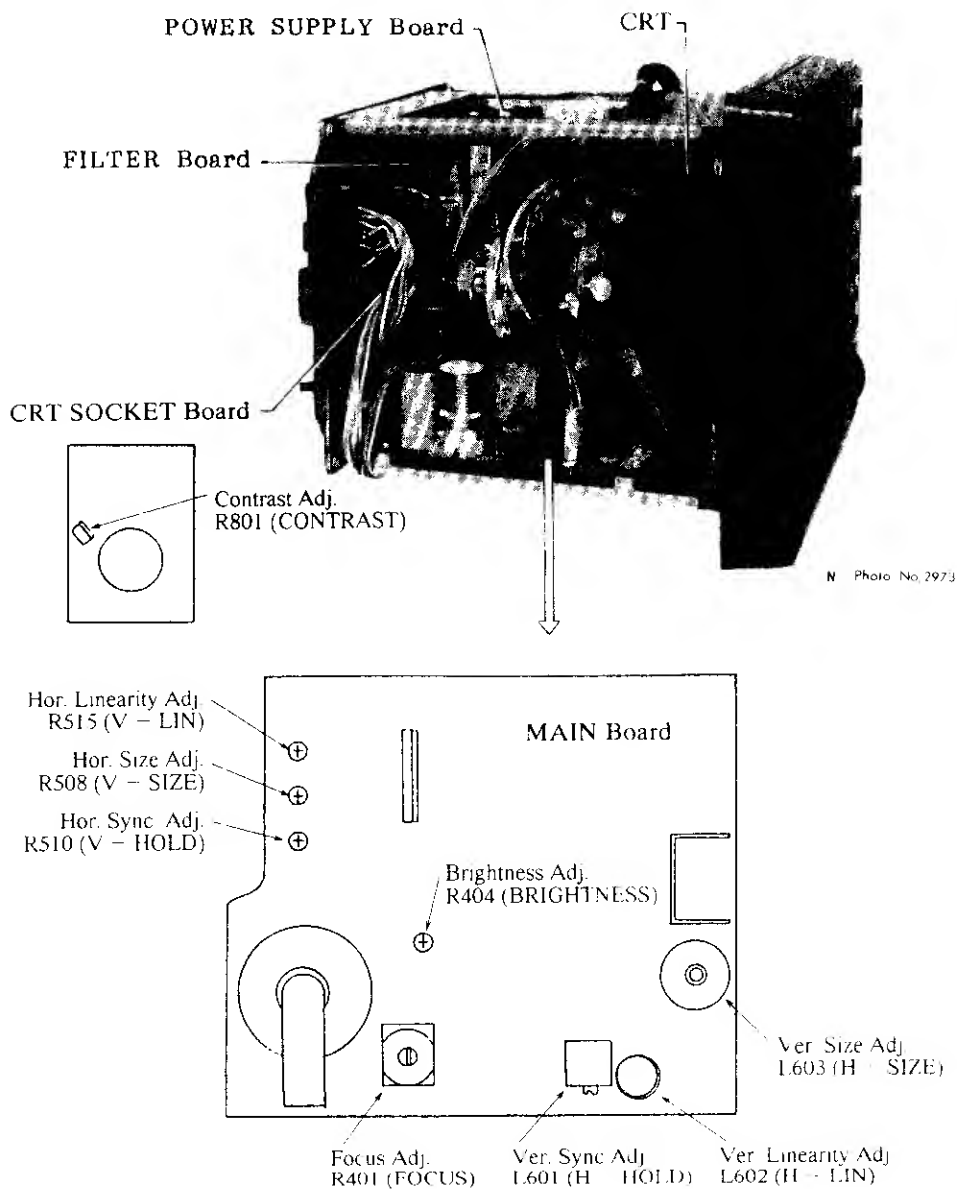

Figure 5-1 Display Unit Left Side View
- POWER SUPPLY Board. Measure voltage between J1301 #1(+) and #4(-) on the POWER SUPPLY Board. It should be 10.2 to 20.3 VDC for 12 VDC system, or 20.4 to 40.0 VDC for 24 and 32 VDC systems. See Figure 5-1 on page 5-5.